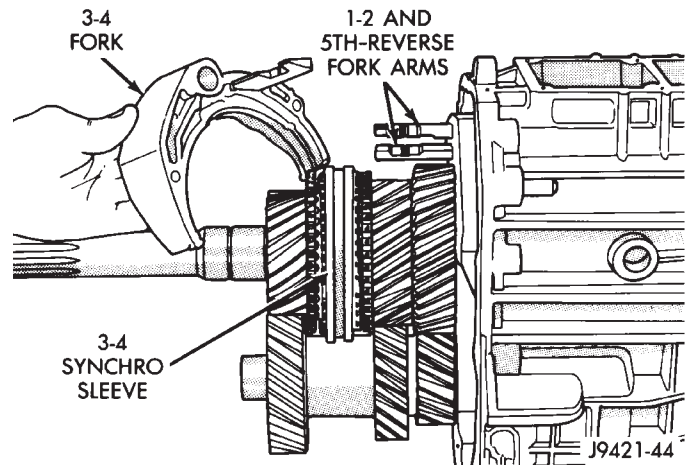

Fig. 26 Removing 3-4 Shift Fork
(8) Remove 3-4 fork. Rotate 3-4 fork around synchro sleeve until fork clears shift arms on 1-2 and fifth-reverse forks. Then remove 3-4 fork (Fig. 26).